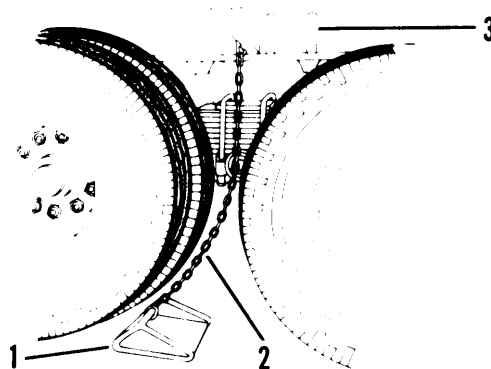

Figure 2-3. Chock Block
- a. One chock block (1, fig. 2-3) located on each side of semitrailer.
- b. Depending upon the terrain, place chock blocks (1) firmly behind or forward of wheels on each side of the semitrailer.
- d. Chain (2) holds chock block (1) to semitrailer to keep it from being lost.
- e. Stowage bracket (3) stows chock block (1) when not in use.